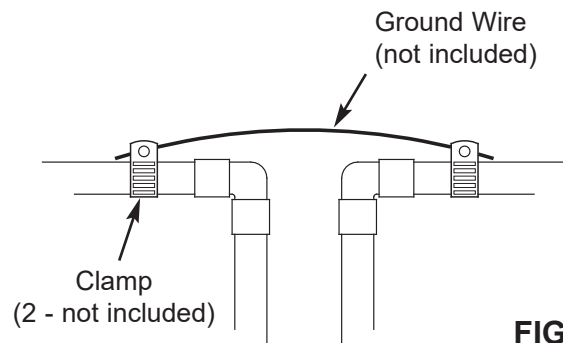

FIG. 7
- Install a #4 copper wire across the removed section of main water pipe, securely clamping it at both ends (See Figure 7) - parts not included